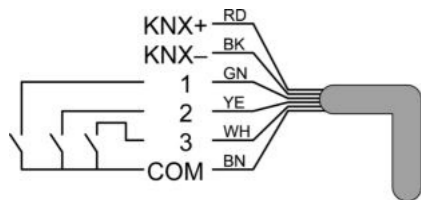

Figure 2
- If necessary, connect potential-free contacts (6) to inputs (Figure 2).